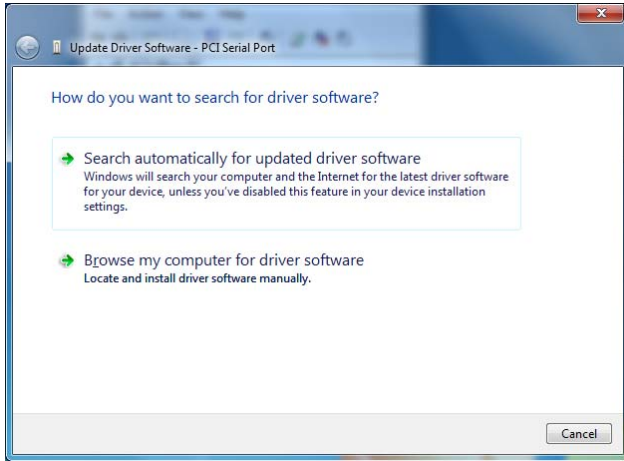

Figure 22
2. Select one of the PCI Serial Port entries in Other Devices, and right-click on it. A menu (attached to the selection) appears, where an “Update Driver Software...” entry appears - click on this entry. A screen as shown in Figure 22 displays.